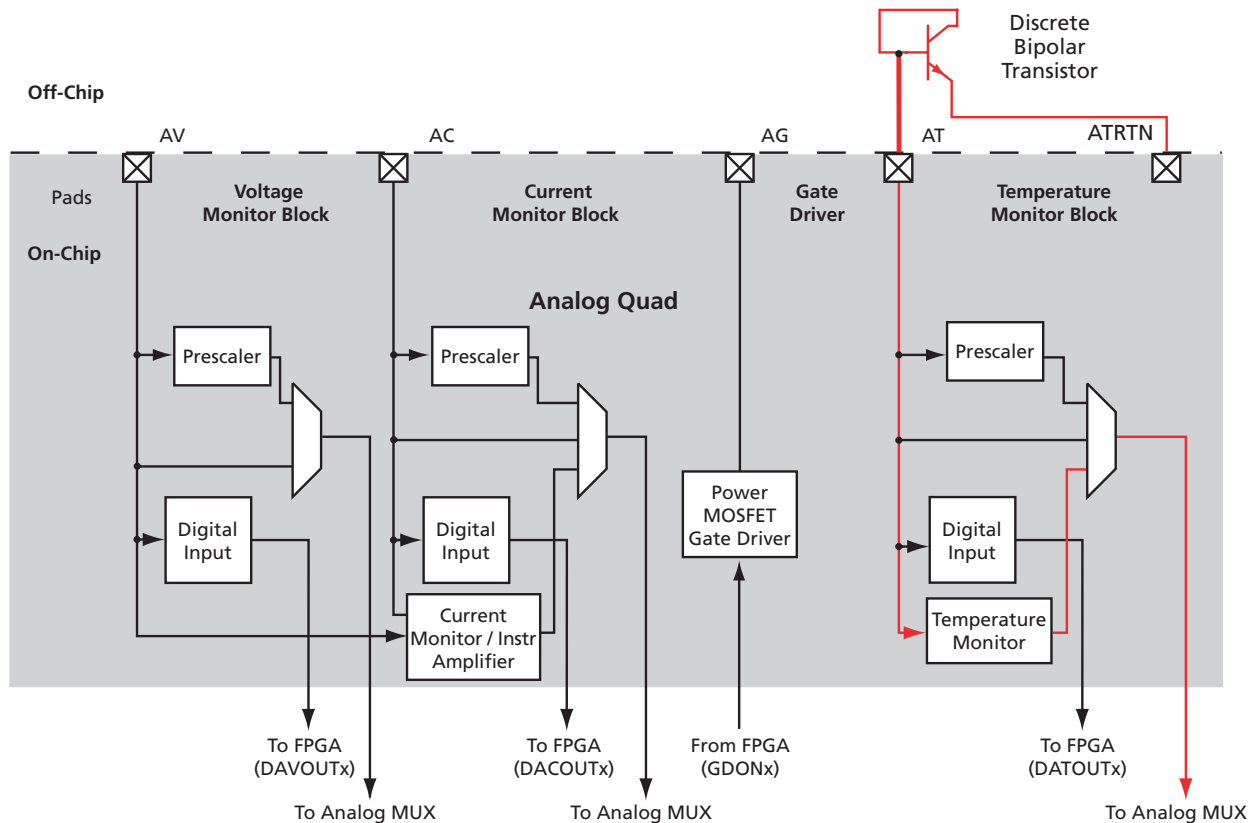

Figure 2-77 • Temperature Monitor Quad
The final pin in the Analog Quad is the Analog Temperature (AT) pin. The AT pin is used to implement an accurate temperature monitor in conjunction with an external diode-connected bipolar transistor (Figure 2-77). For improved temperature measurement accuracy, it is important to use the ATRTN pin for the return path of the current sourced by the AT pin. Each ATRTN pin is shared between two adjacent Analog Quads. Additionally, if not used for temperature monitoring, the AT pin can provide functionality similar to that of the AV pad. However, in this mode only positive voltages can be applied to the AT pin, and only two prescaler factors are available (16 V and 4 V ranges—refer to Table 2-54 on page 2-131).